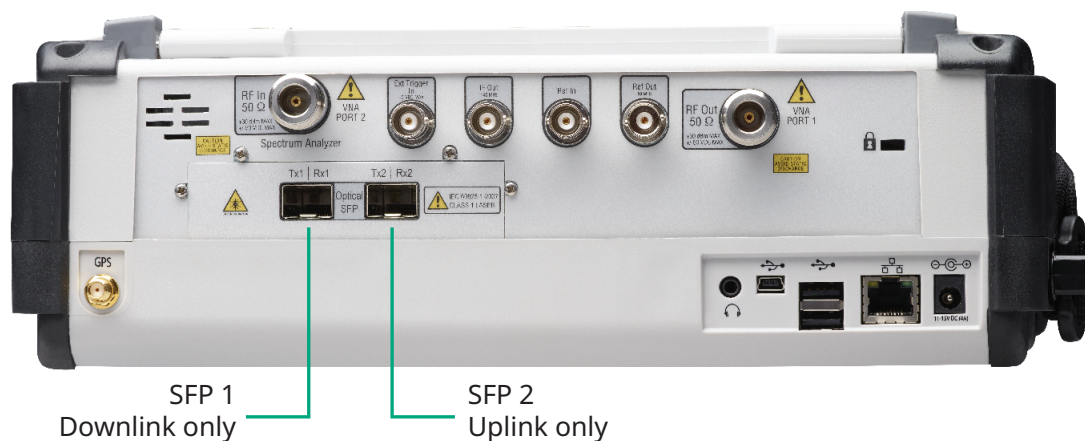

Figure 3: BTS Master analyzer SFP connections
- Install the appropriate small form pluggable (SFP) for each slot of the BTS Master analyzer (the selected SFPs must support both the optical fiber mode (single or multi) and the CPRI line rate (data rate) being used by the Base Station installation). See Figure 3.
- The combined ports A and B are the monitor ports for the CPRI link, run a simplex cable from the optical tap(s) downlink (port AB) to the SFP 1 Rx port to set up your downlink monitor connection. Next, run a simplex cable from the optical tap(s) uplink (port AB) to the SFP 2 Rx port to set up your uplink monitor connection (see Figures 3, 4, and 5).